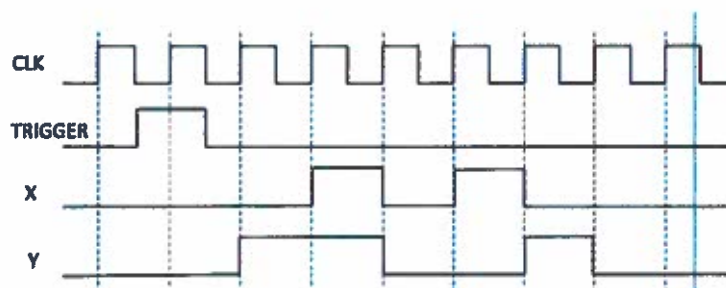

Figure 1.3
- (c) *Figure 1.3* shows the timing diagram of a shift register based control circuit with a clock signal CLK and a trigger input signal TRIGGER, which changes on the falling edge of CLK and is a pulse lasting for one period of CLK. Design in schematic or Boolean equations the control circuit that generates output signals X and Y as shown in the timing diagram using shift registers and logic gates.